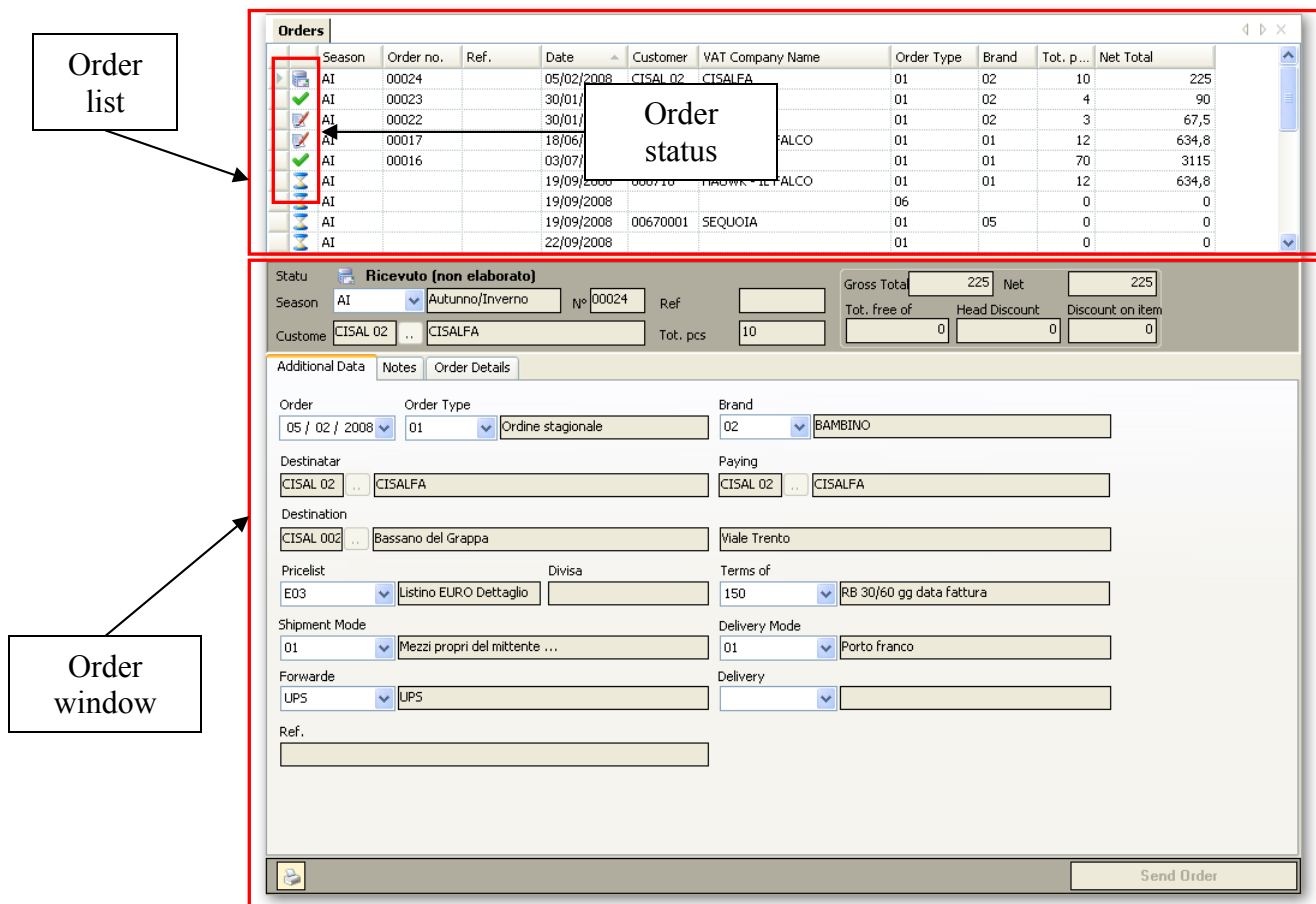

Fig. 8 - Order list window and Order window
In the right section of the screen, the "Order list" window and the "Order window" will be displayed (Fig. 8).
The symbol in the red area indicates the "Order Status" (Fig. 8). It may be:
-  **Transmitted:** the order has been transmitted to the company. The order receipt by the company is confirmed when the status is displayed as "Received", with the attribution of an order number (visible in the third column of the "Order list" window, Fig. 8).